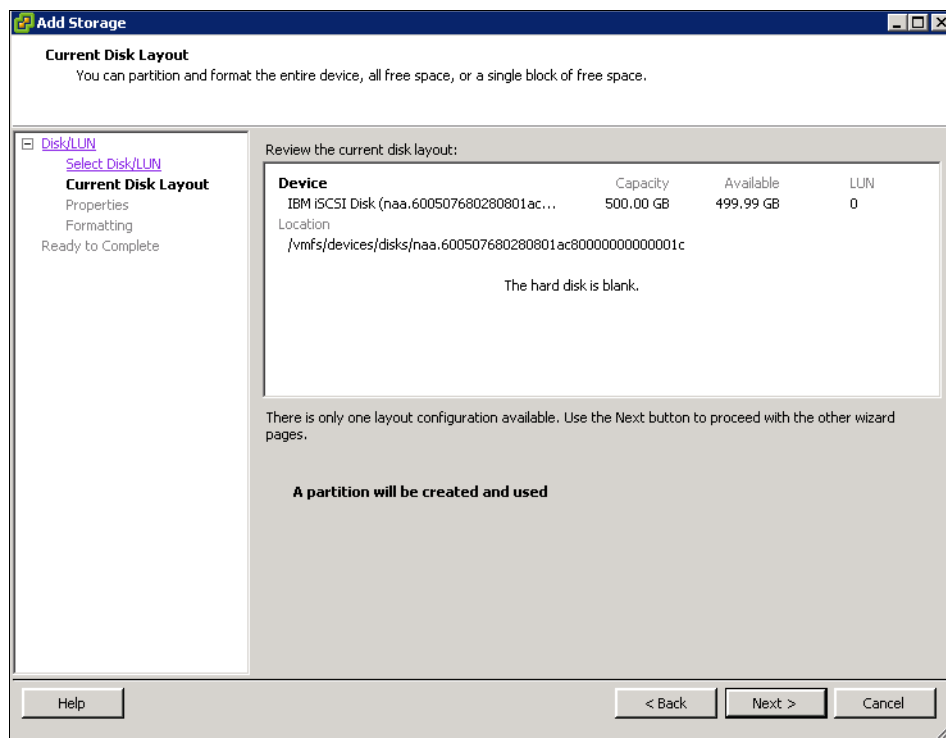

Figure 12-54 Current Disk Layout
9. Review the disk layout and click **Next** (Figure 12-54).